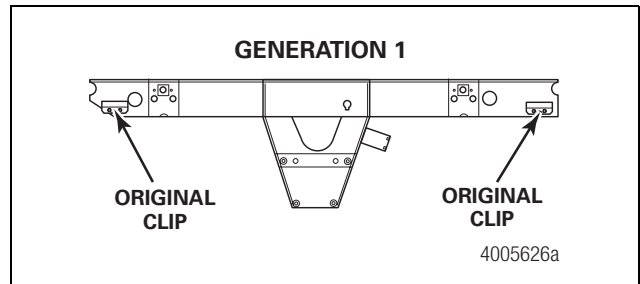
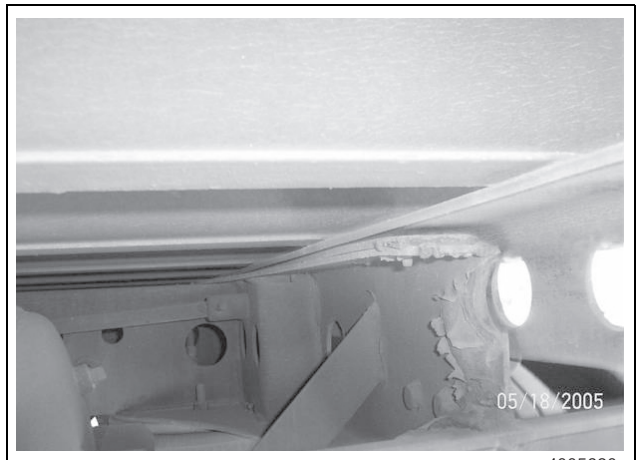

Figure 33
Figure 34
2. Identify the slider. Figure 33 and Figure 34.